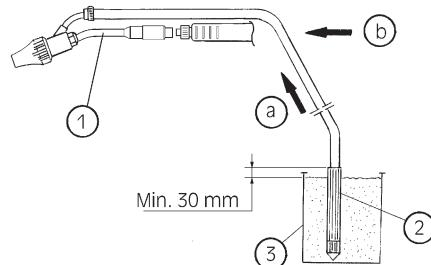

Fig. 7
The device for hydrosanding is easy to apply (see Fig. 7): simply replace the standard lance with the lance for hydrosanding (1) and place the sand intake pipe (2) in a suitable container (not supplied) (3), taking care to use dry sand of a quality appropriate for this purpose (quartz or silicon sand; contact your retailer) and allowing 30 mm of pipe to protrude from the sand.